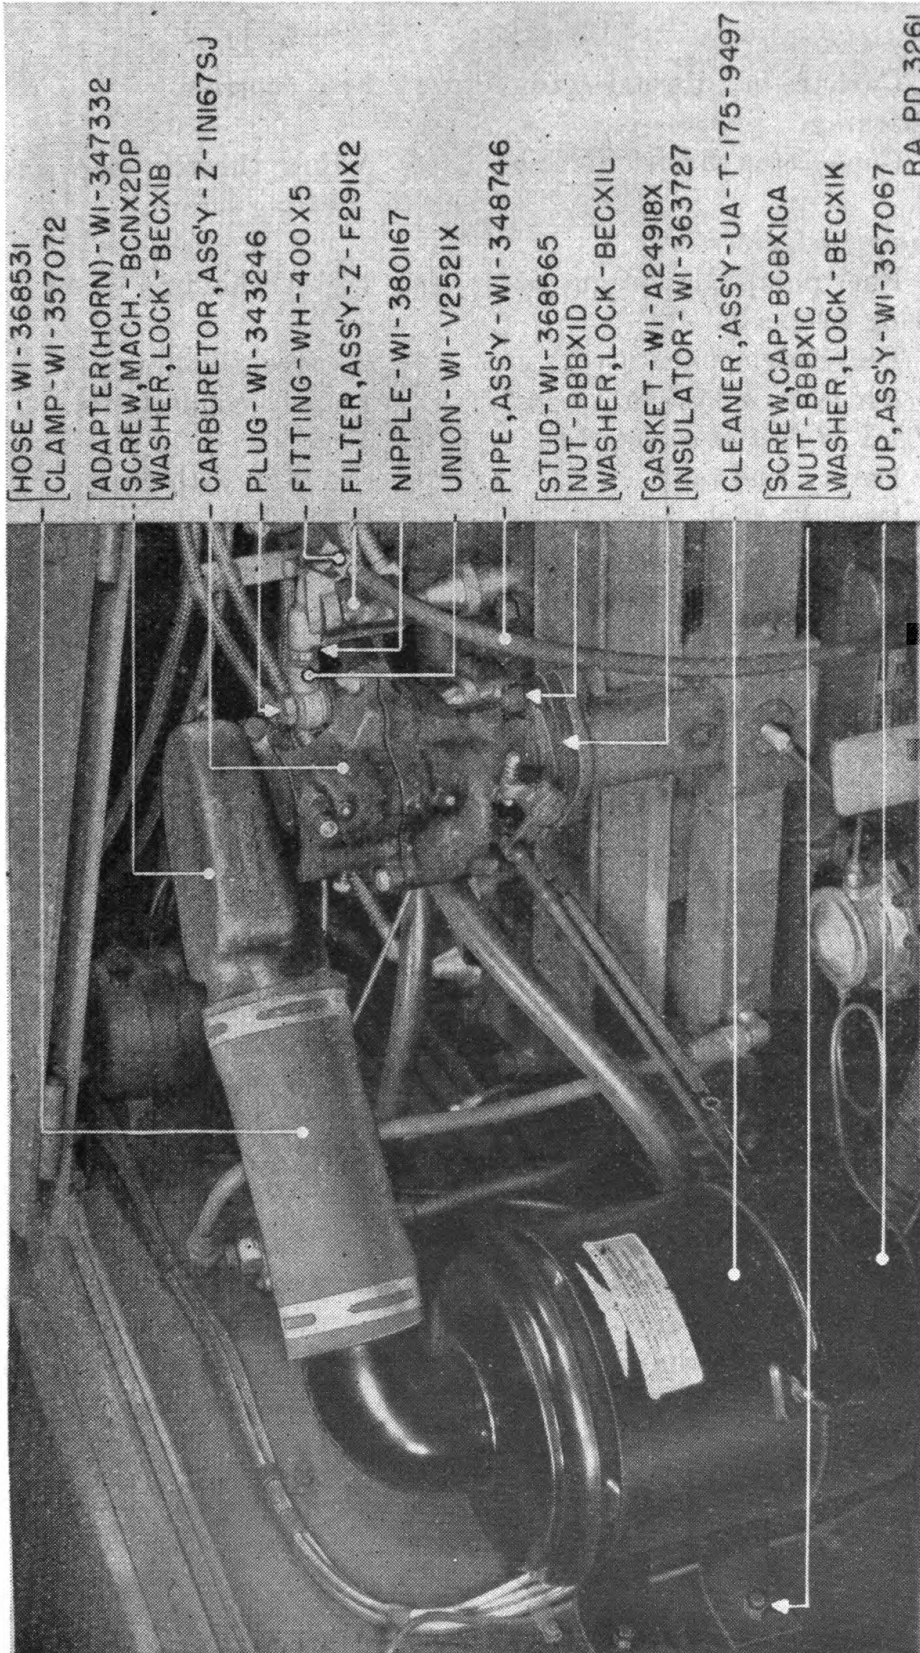

FIGURE 174.—Fuel system, installed.
49. Description.—*a. General.*—The engine fuel system (fig. 174) consists of a fuel pump, fuel line, fuel filter, carburetor, and the carburetor air cleaner. The fuel pump is attached to the right rear side of the engine crankcase. The carburetor, which is bolted on the inlet manifold flange, has the fuel filter attached to its fuel inlet union. Extending from the fuel pump outlet fitting to the fuel filter inlet fitting is a flared tube fuel line, covered with a protector loom. The air cleaner is bolted on the right engine side of the dash and is connected to the carburetor air intake horn by means of a rubber hose and clamps.
52. Carburetor.—a. Description (fig. 174).—The carburetor is a Zenith down-draft type. It is located at the right side of the engine and is bolted to the inlet manifold header flange. The choke and hand throttle control buttons are located on the instrument panel.